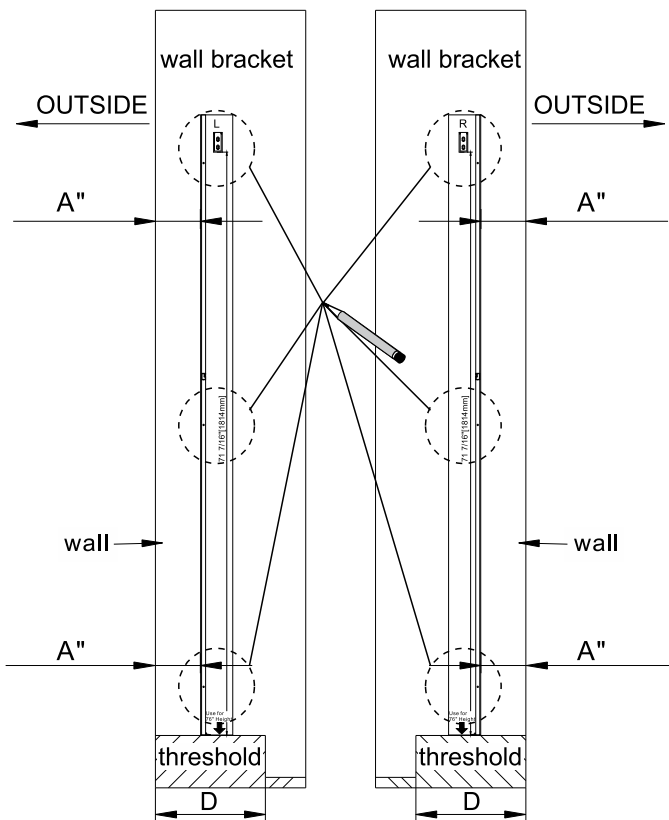
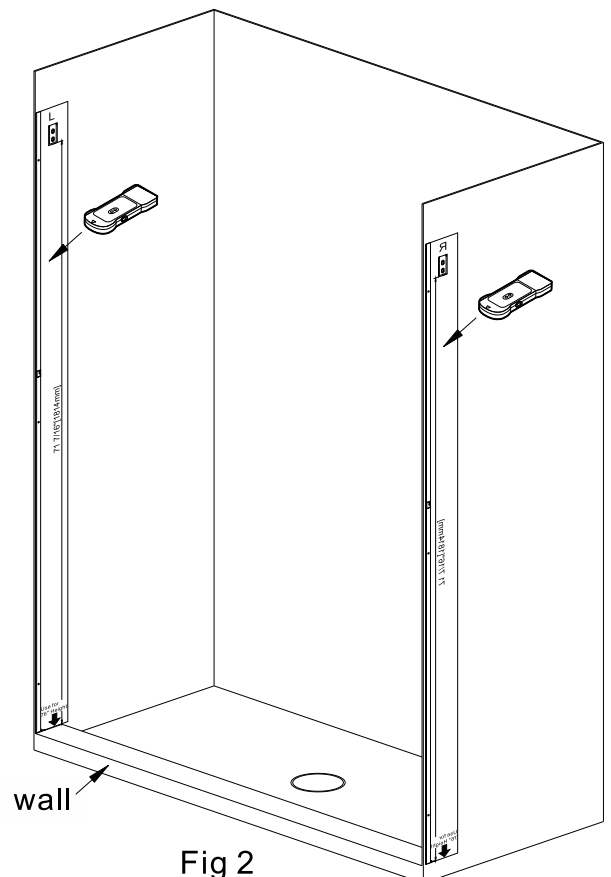

Fig1
Fig 2
- This model requires a minimum 2-3/4" (70mm) of flat level threshold space for installation. 4-1/8" (105mm) of flat level threshold space is preferable. (Dimension "D" of Fig 1.)
- This shower door must be mounted to a stud. Minimum threshold space is required. **IMPORTANT:** Using a stud finder, ensure the wall intended to hold the door has a stud at the installation point. A stud in this location must be identified to support the support bar in order to proceed with the installation. If there is no stud in the shown area, we recommend employing a qualified contractor to install one. (Fig 2)
1. Tear off the tape of the **Template (L)** and **Template (R)** and stick them to the side wall of shower room as Fig 1 shows. Make sure the edge of templates are aligned with the edge of walls. Or measure in A" if you want to install the shower door behind the outside of the wall.
Note: A" is the distance between outermost surface of shower door and the outside of the wall. Make sure the **Template (L)** is stuck on the left wall. (Fig 1)
2. Mark the screw hole position through the templates to the wall. Use stud finder to make sure there are studs behind the positions of the templates. (Fig 1, Fig 2)